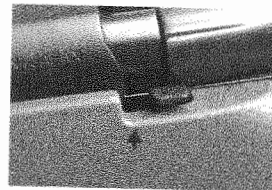

Fig. 5, Bolt release lever
Step 7. Push down on the bolt release lever (see Fig 5).